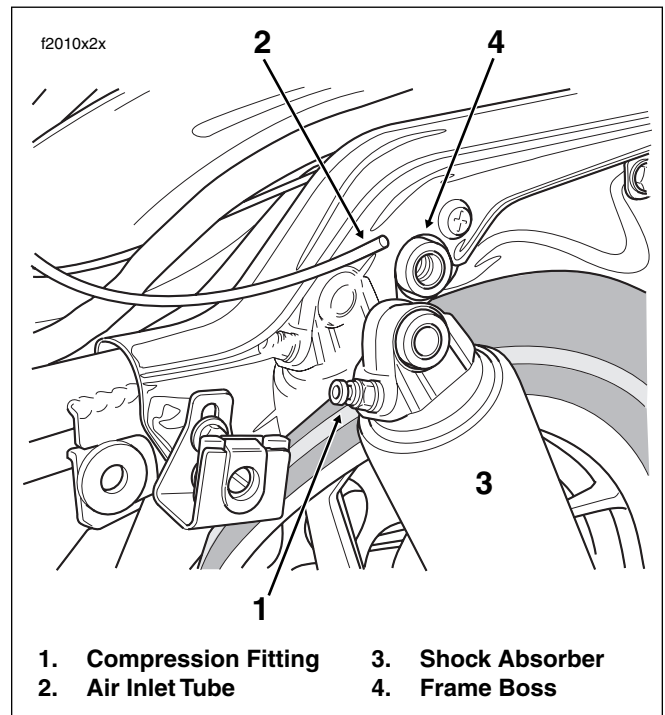

Figure 2-95. Remove Upper Shock Mounting Bolt (Left Side View)
6. Remove the upper shock mounting bolt with lockwasher and flat washer. See lower frame of Figure 2-95.